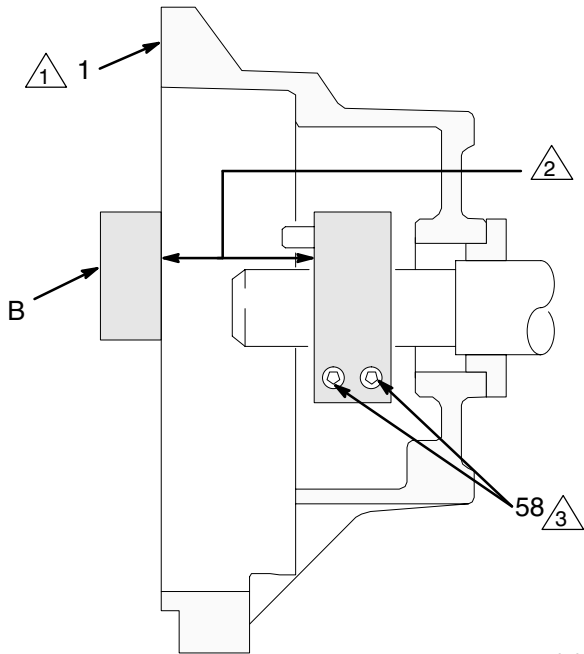

Fig. 22
3. Press the **clamp (55)** onto the engine shaft (A). Maintain the 1.41 inch  $\pm 0.01$  (35.8  $\pm 0.25$  mm) dimension shown in Fig. 22.